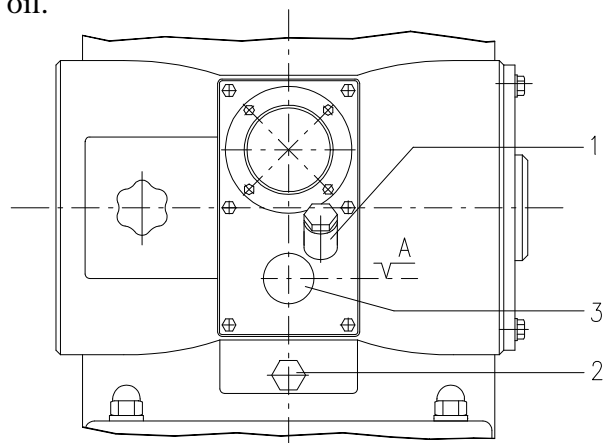

Figure 5.3
**The separator is delivered without lubricating oil.** Before the first starting it is necessary to fill the gear housing with the lubricant of separator equipment. After the filling, the oil must be at a level just over the mark on the sight glass (fig. 5.3). During operation, the oil level has never to fall below the mark.